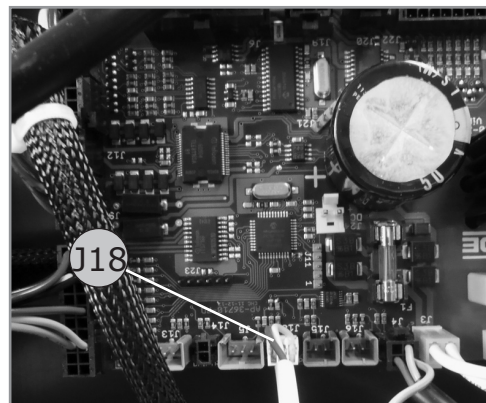

Figure 39
4. Remove any clips and loosen the temperature sensor's connection (J18, figure 39) from the TSM card.